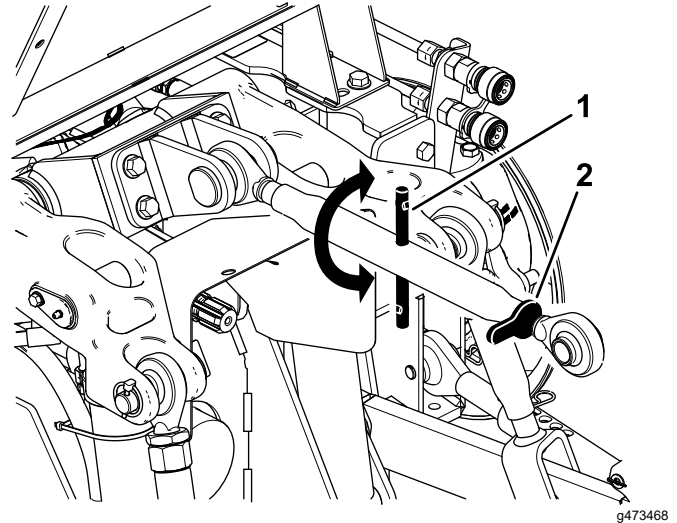

Figure 22
1. Loosen the jam nut on the top link (**Figure 22**).
3. Tighten the jam nut (**Figure 22**).